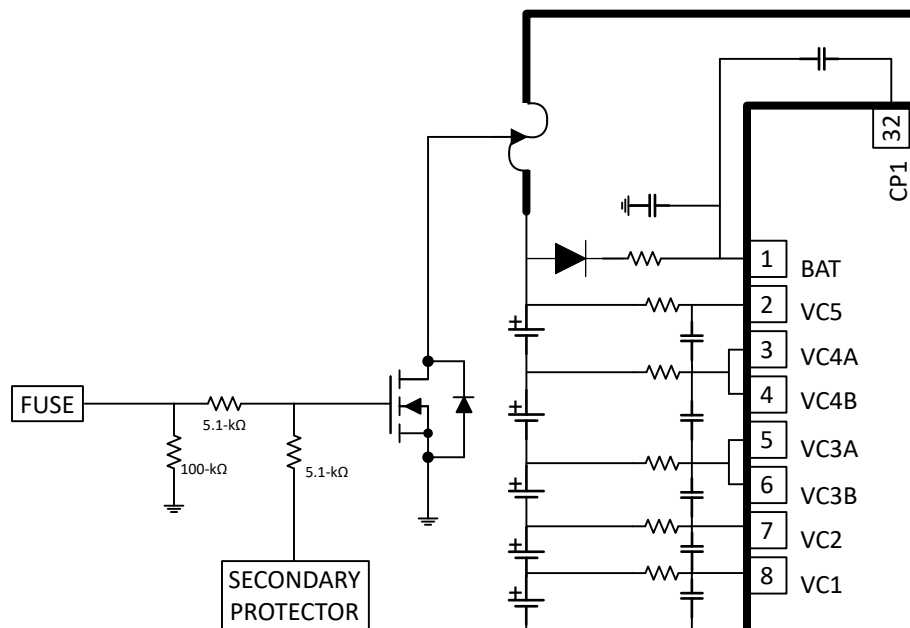

图 7-4. FUSE Pin Operation
The FUSE pin on the BQ76922 device can be used to blow a chemical fuse in the presence of a Permanent Fail (PF), as well as to determine if an external secondary protector in the system has detected a fault and is attempting to blow the fuse itself. The pin can drive the gate of an NFET, which can be combined with the drive from an external secondary protector, as shown in 图 7-4. When the FUSE pin is not asserted by the BQ76922 device, it remains in a high-impedance state and detects a voltage applied at the pin by a secondary protector. The device can be configured to generate a PF if it detects a high signal at the FUSE pin.